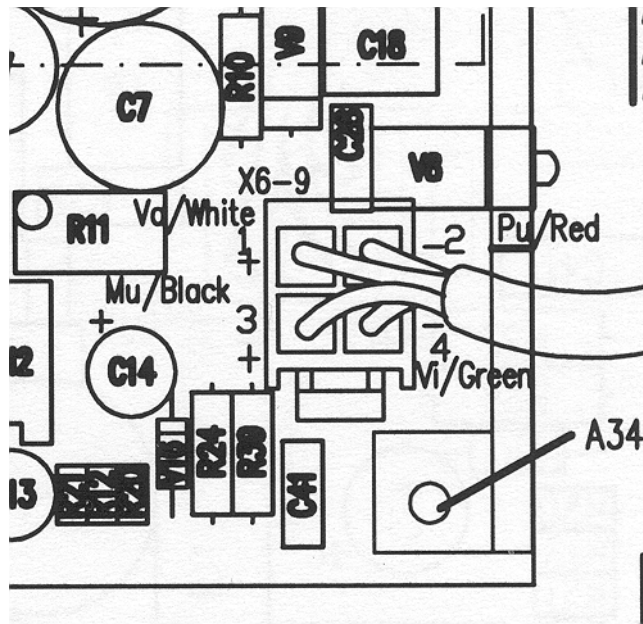

Figure 3 **Output cable location**
3. Solder PCA connector which came with the new cable to the PCA as shown in figure 3.